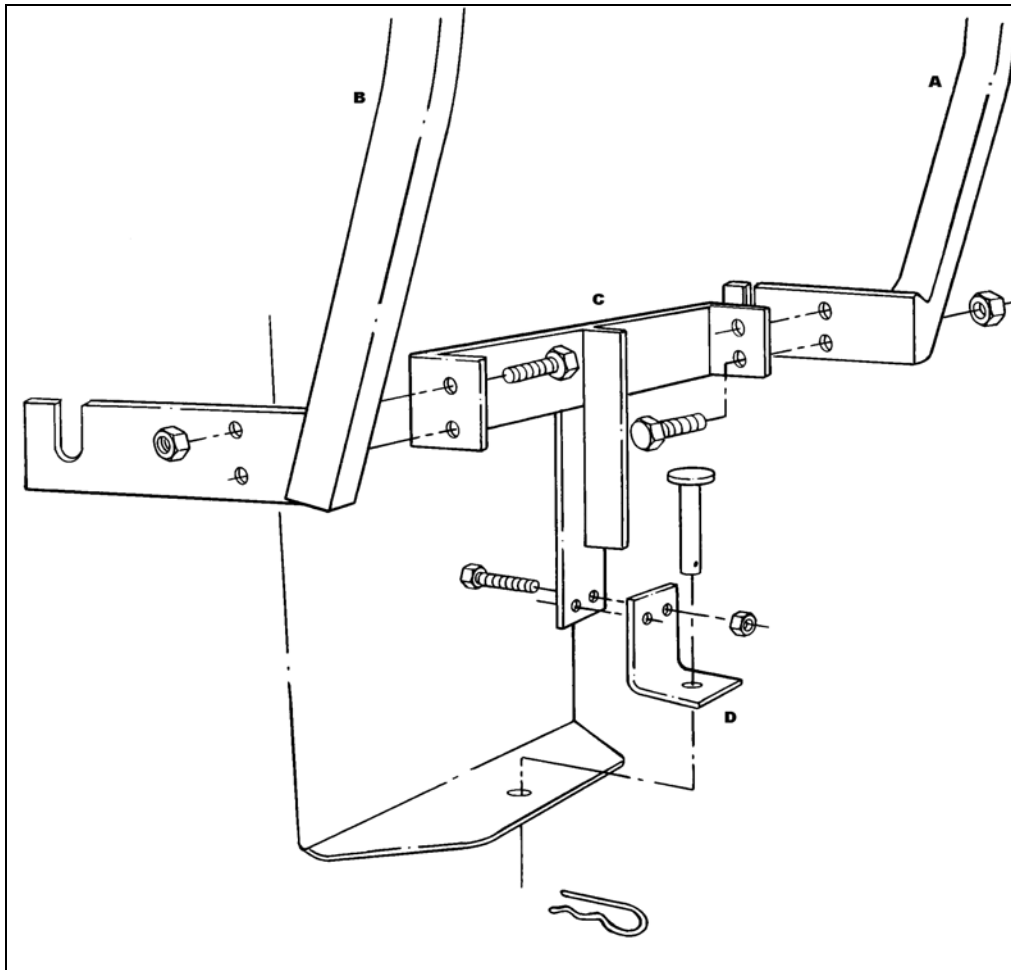

FIGURE 1
The number in brackets [#] after a part description in the text refers to the key number for the part on the parts list and in figures 1 and 2.
STEP 1 ;SEE FIGURE 1:
STEP 2;SEE FIGURE 1: